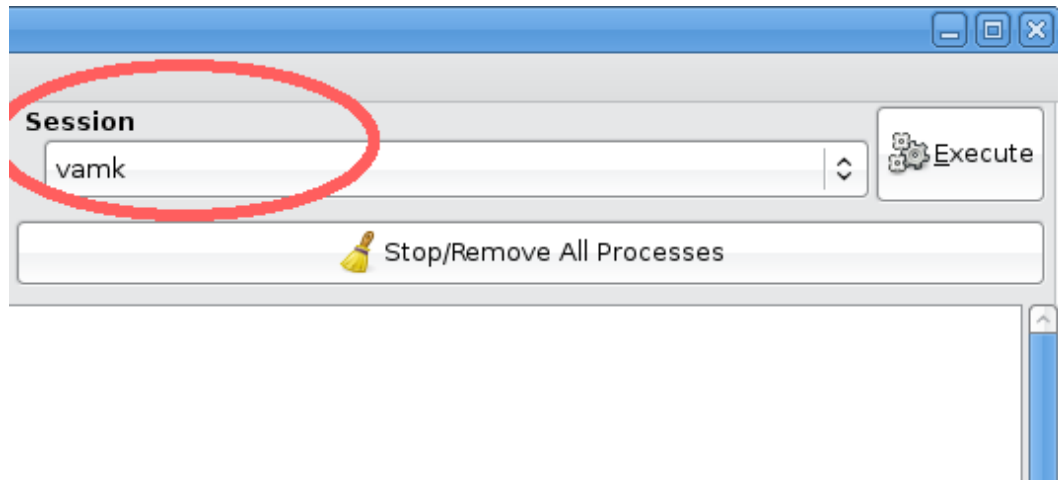

Figure 9: Session Name.
3. Now you must check in which session you want the video to be shown in. You choose it from the Paparazzi Center. See Figure 9 on page 40.